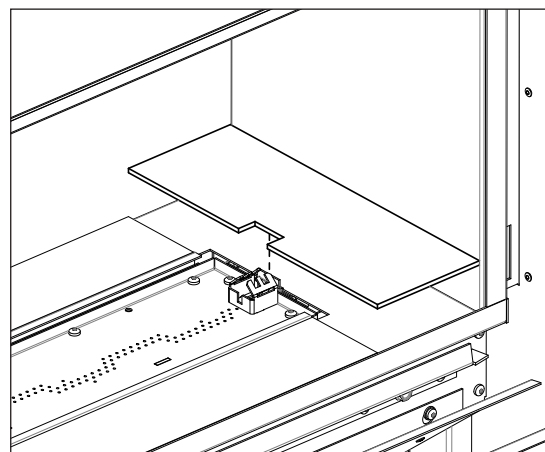

Figure 72: Bezel Placement Around Pilot
3. Ensure that the short, notched bezel is placed around the pilot assembly as shown in Figure 72.